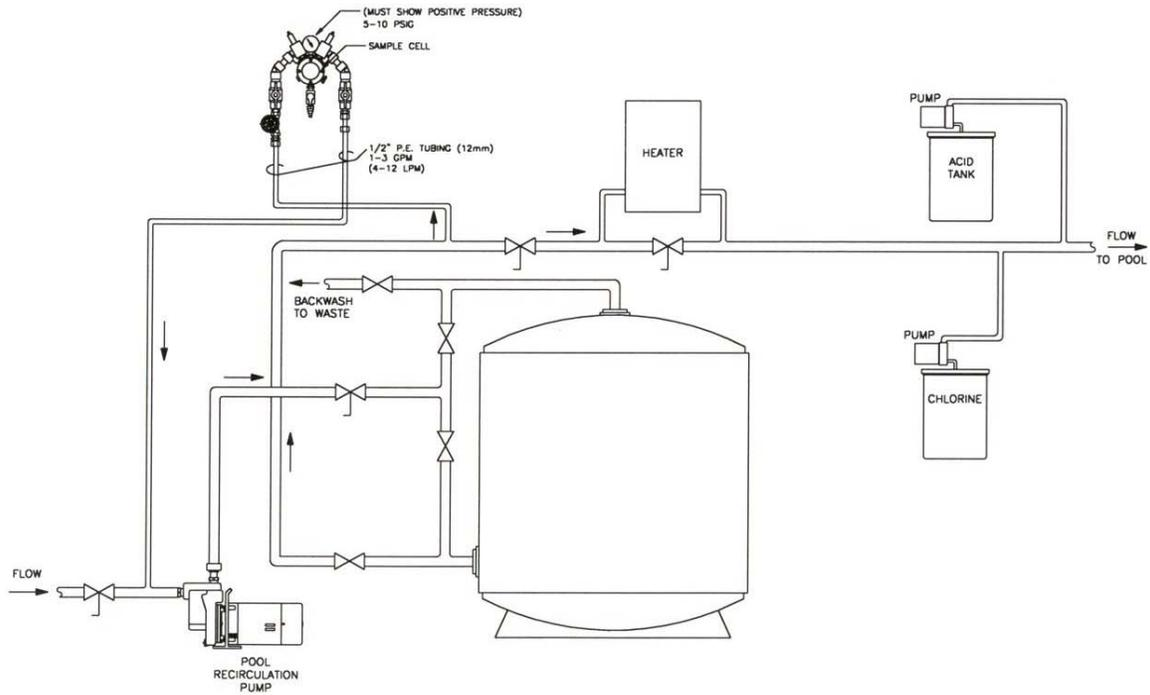

Fig 2.2
- For the discharge point of the flowcell, tap upstream (before) of recirculation pump. (Fig 2.2)
- Screw pH, HRR and Temperature sensors into flowcell. (Fig 2.2)